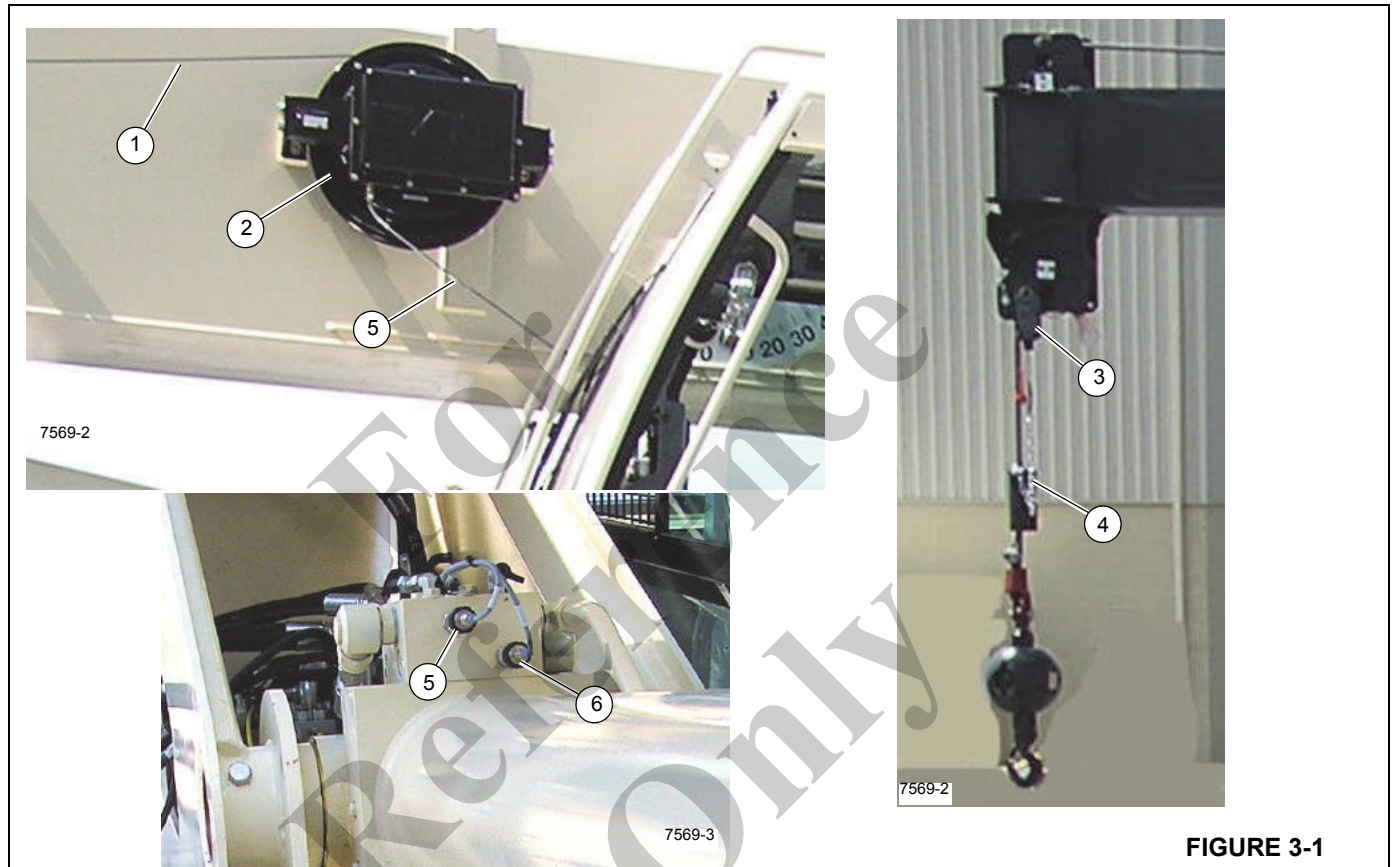

FIGURE 3-1
The boom A2B cable (1), Figure 3-1 runs from the A2B reel outside the boom to the A2B switch assembly (3). The A2B switch assembly cable is attached to the anti-two block weight.